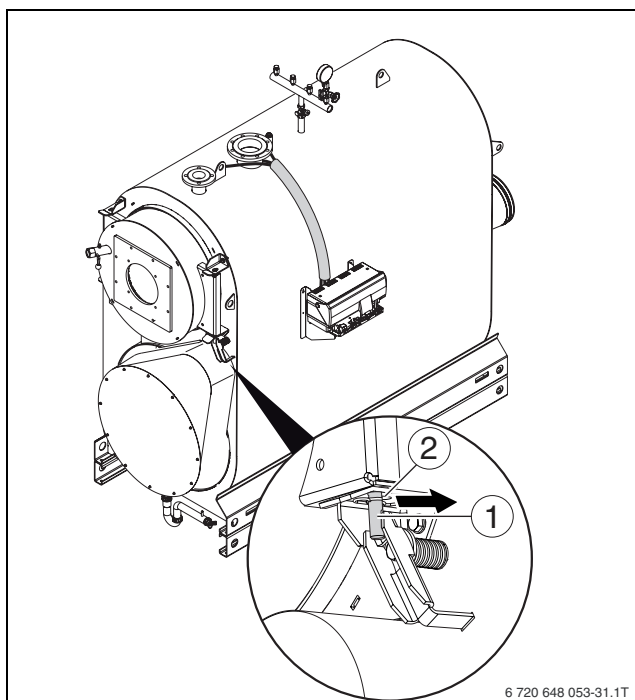

Fig. 14 Removing the retaining split pin
- ▶ Tighten the compression spring with the Allen screw until the rocker arm to the hinge pin has some play (→ Fig. 14, page 19).
- ▶ Pull the hinge pin (→ Fig. 14, [1]) upwards out of the hinge.
- ▶ Fit the retaining split pin through the hinge pin below the lower door stay (→ Fig. 14).